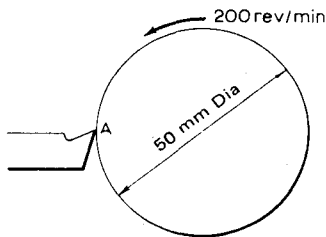

Fig. 1.53
**Cutting speed for turning.** When work is being turned, the cutting speed is the speed at which the material passes over the tool point. Fig. 1.53 shows a 50 mm diameter bar being machined in a lathe. The bar revolves at 200 rev/min and we wish to find the cutting speed.